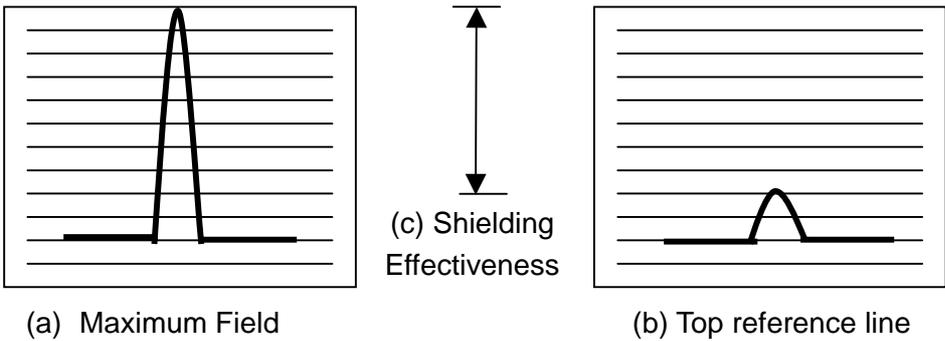

Figure 3-2 Spectrum Analyzer Display
9. Maximum field(a) should not be greater than -80dB(c) from the top reference line(b). Figure 3-2